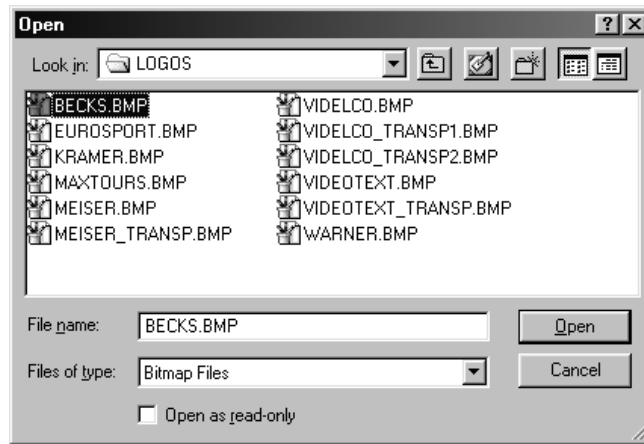

Figure 11: Selecting a Bitmap File
2. From the Logo menu, click the Load command and choose a bitmap file⁴, as Figure 11 illustrates.